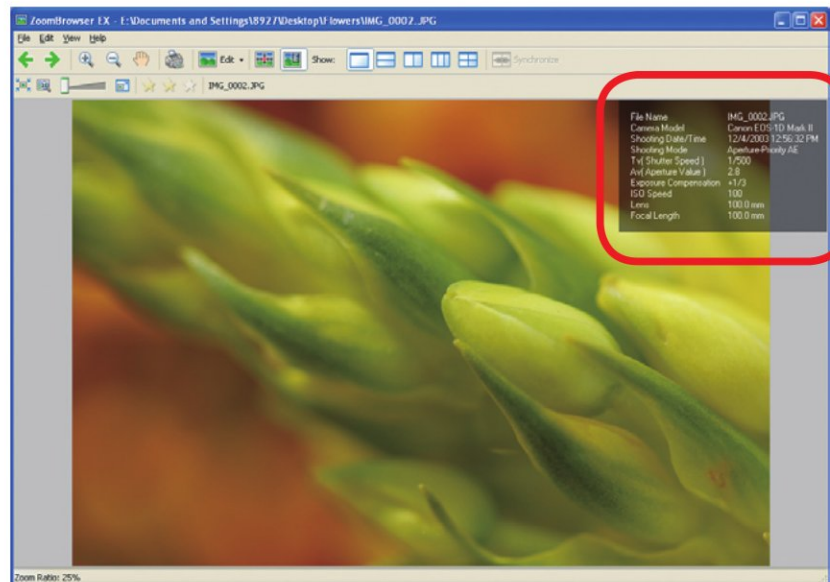

Fig. 008 Shooting information display in Viewer window
- Shooting information displayed on images (Fig. 008/highlighted in red frame).